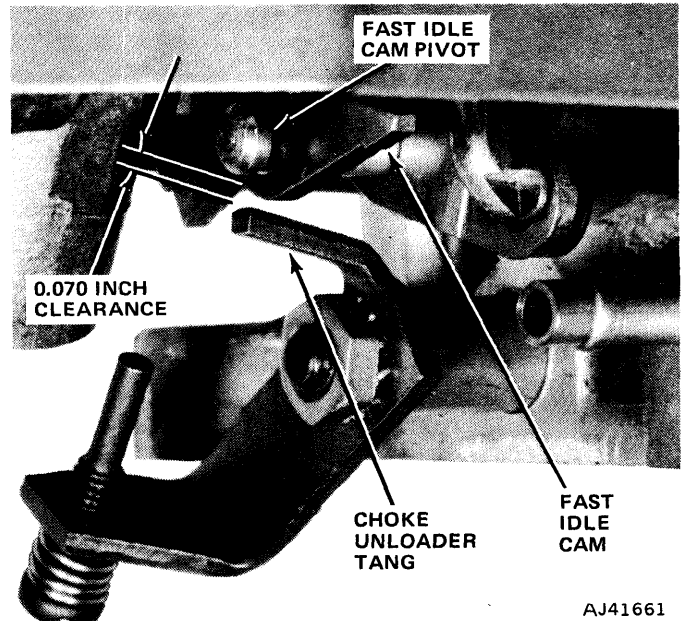

Fig. 4-83 Unloader Adjustment
- (3) Adjust by bending unloader tang which contacts the fast idle cam as shown in figure 4-83. Bend toward